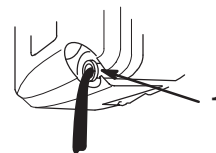

Figure 26
5. Tip the lawn mower onto its **left** side, allowing the oil to drain into the drain pan (Fig. 26).